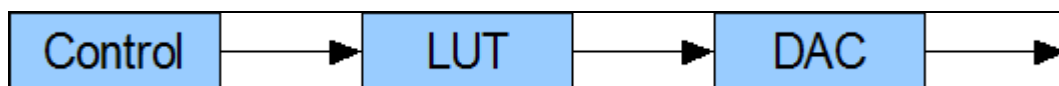
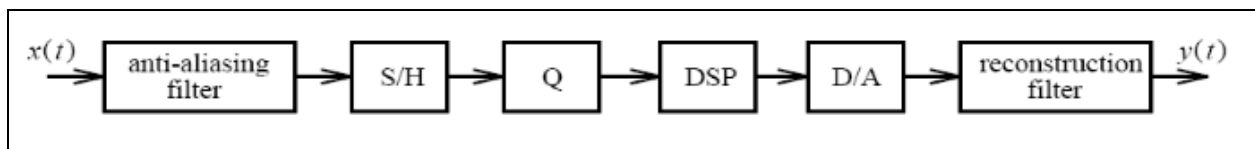

Figure 1. Block diagram of Look Up Table system
Figure 2. A block diagram of a practical DSP system
Figure 1 shows a block diagram of a simple lookup table signal generator, while Figure 2 shows a typical digital signal processing (DSP) system. On the Arduino Due, the ADC has no low pass (anti-aliasing) filter, however additional 10 kHz lowpass filters can be inserted at input and output. The Due codec is implemented as separate analogue to digital (A2D) and digital to analogue (D2A) converters, these being represented by the sample and hold (S/H) plus quantiser (Q) and D/A blocks in Figure 2 respectively. Finally, the DSP block in Figure 2 is where the equations for implementing the desired digital filters are performed.